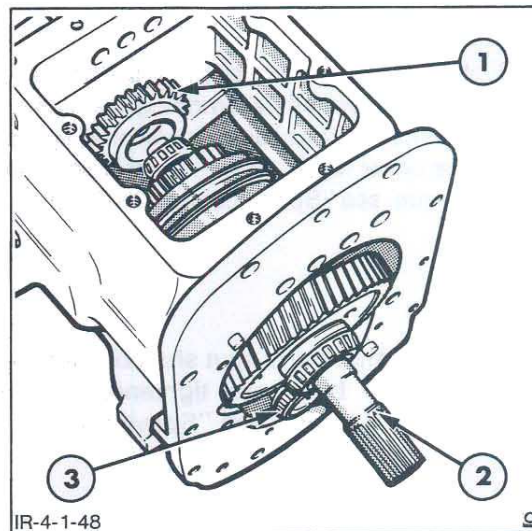

Figure 61
5. Install the output shaft and gear assembly into the transmission case from the rear end and position onto the countershaft and gear assembly just behind the rear input shaft, Figure 61.